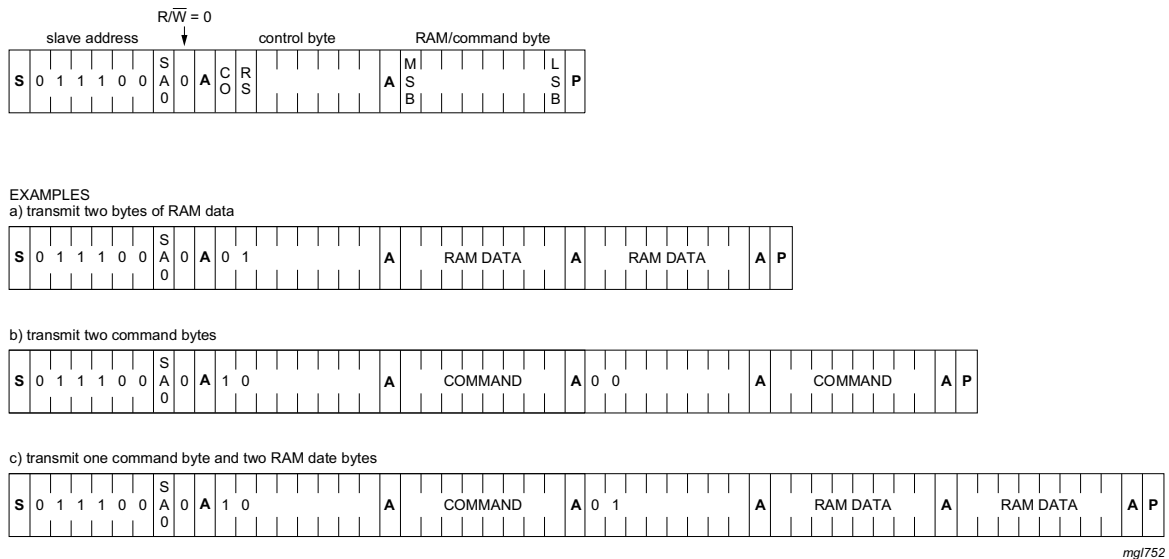

Fig 18. I2C-bus protocol
The I2C-bus protocol is shown in Figure 18. The sequence is initiated with a START condition (S) from the I2C-bus master which is followed by one of the available PCA85233 slave addresses. All PCA85233 with the same SA0 level acknowledge in parallel to the slave address. All PCA85233 with the alternative SA0 level ignore the whole I2C-bus transfer.